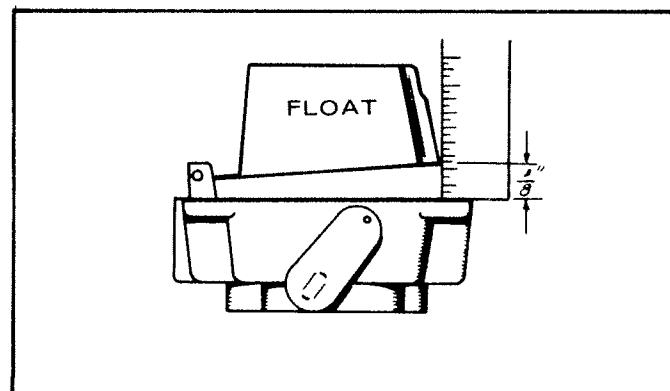

FIGURE 6. FLOAT ADJUSTMENT
2. Invert float assembly as shown in Figure 6.
3. If it is necessary to reset the float level, bend the float tangs near the pin to obtain a 1/8" clearance (Figure 6).